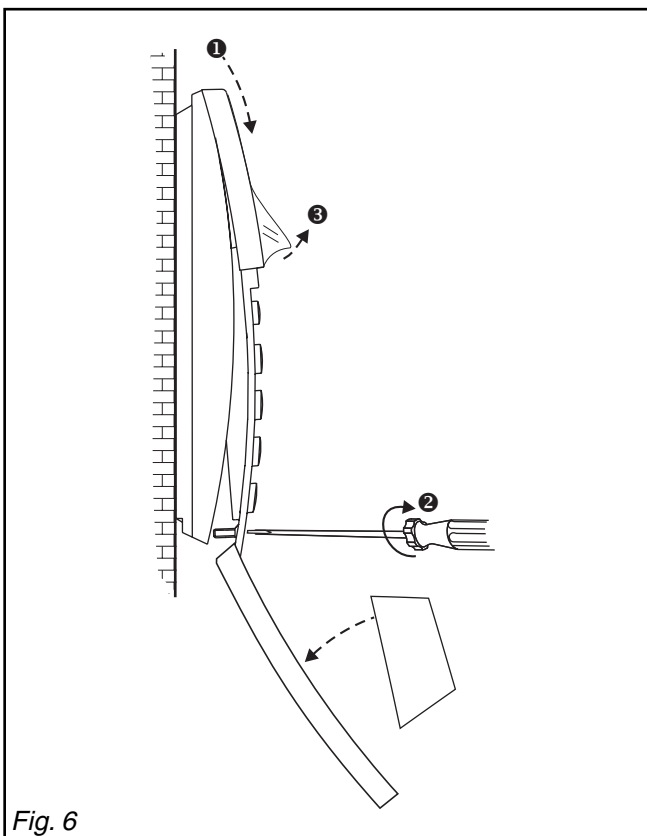

Fig. 6
5. Close the housing (Fig. 6)
- 1 - Engage the cover in the top retainer ①.
- 2 - Close the cover and lock using the screw provided ②.
- 3 - Remove the front protective foil ③ when handing over the system.